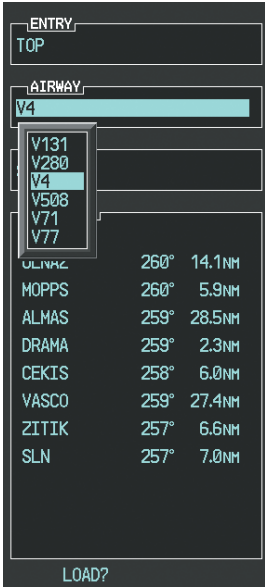

Figure 7-16 List of Available Airways for TOP
f) Press the **LD AIRWY** Softkey to display the list of available airways for TOP as seen in Figure 7-16.
g) Turn either **FMS** Knob to highlight V4 in the list as seen in Figure 7-16.